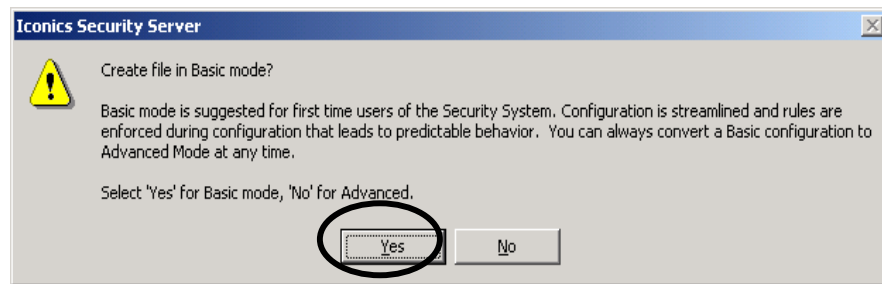

Figure 6.3
1. Select **File New** and for the first part of the security lab we will configure a file in basic mode thus Click **Yes** to the message box shown in **Figure 6.3**.